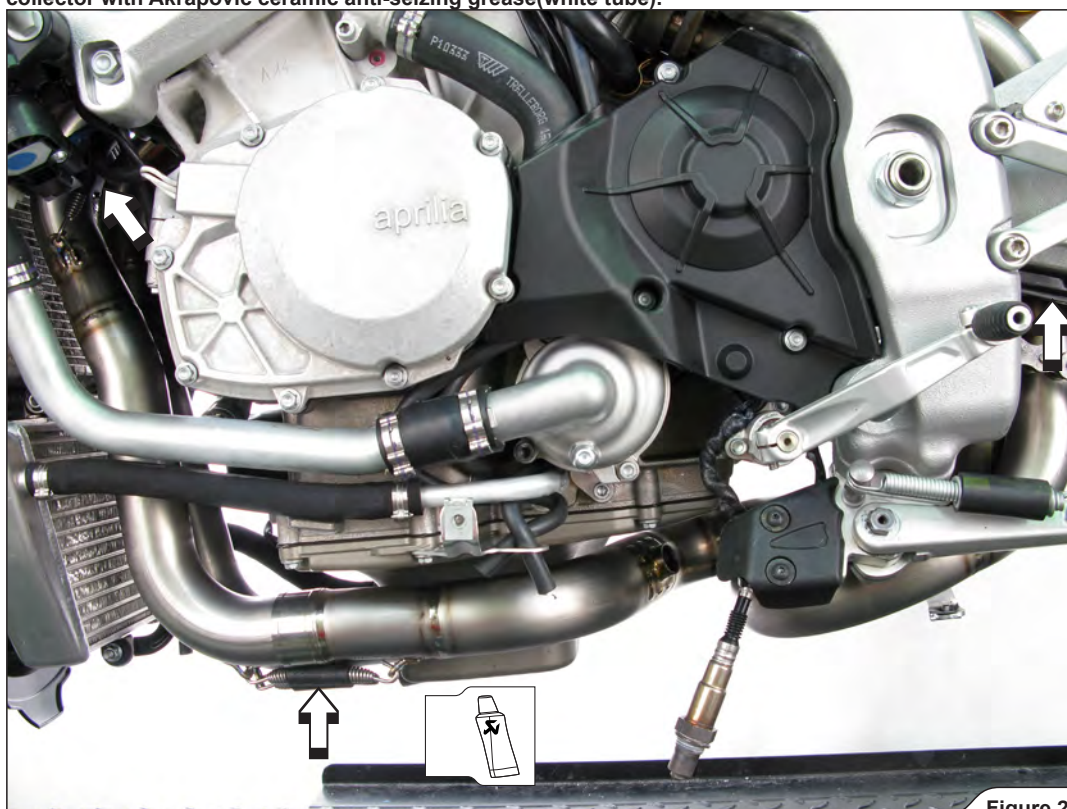

Figure 22
4. Slide the collector onto the header tubes and attach the springs (Figure 22, 23, 24).